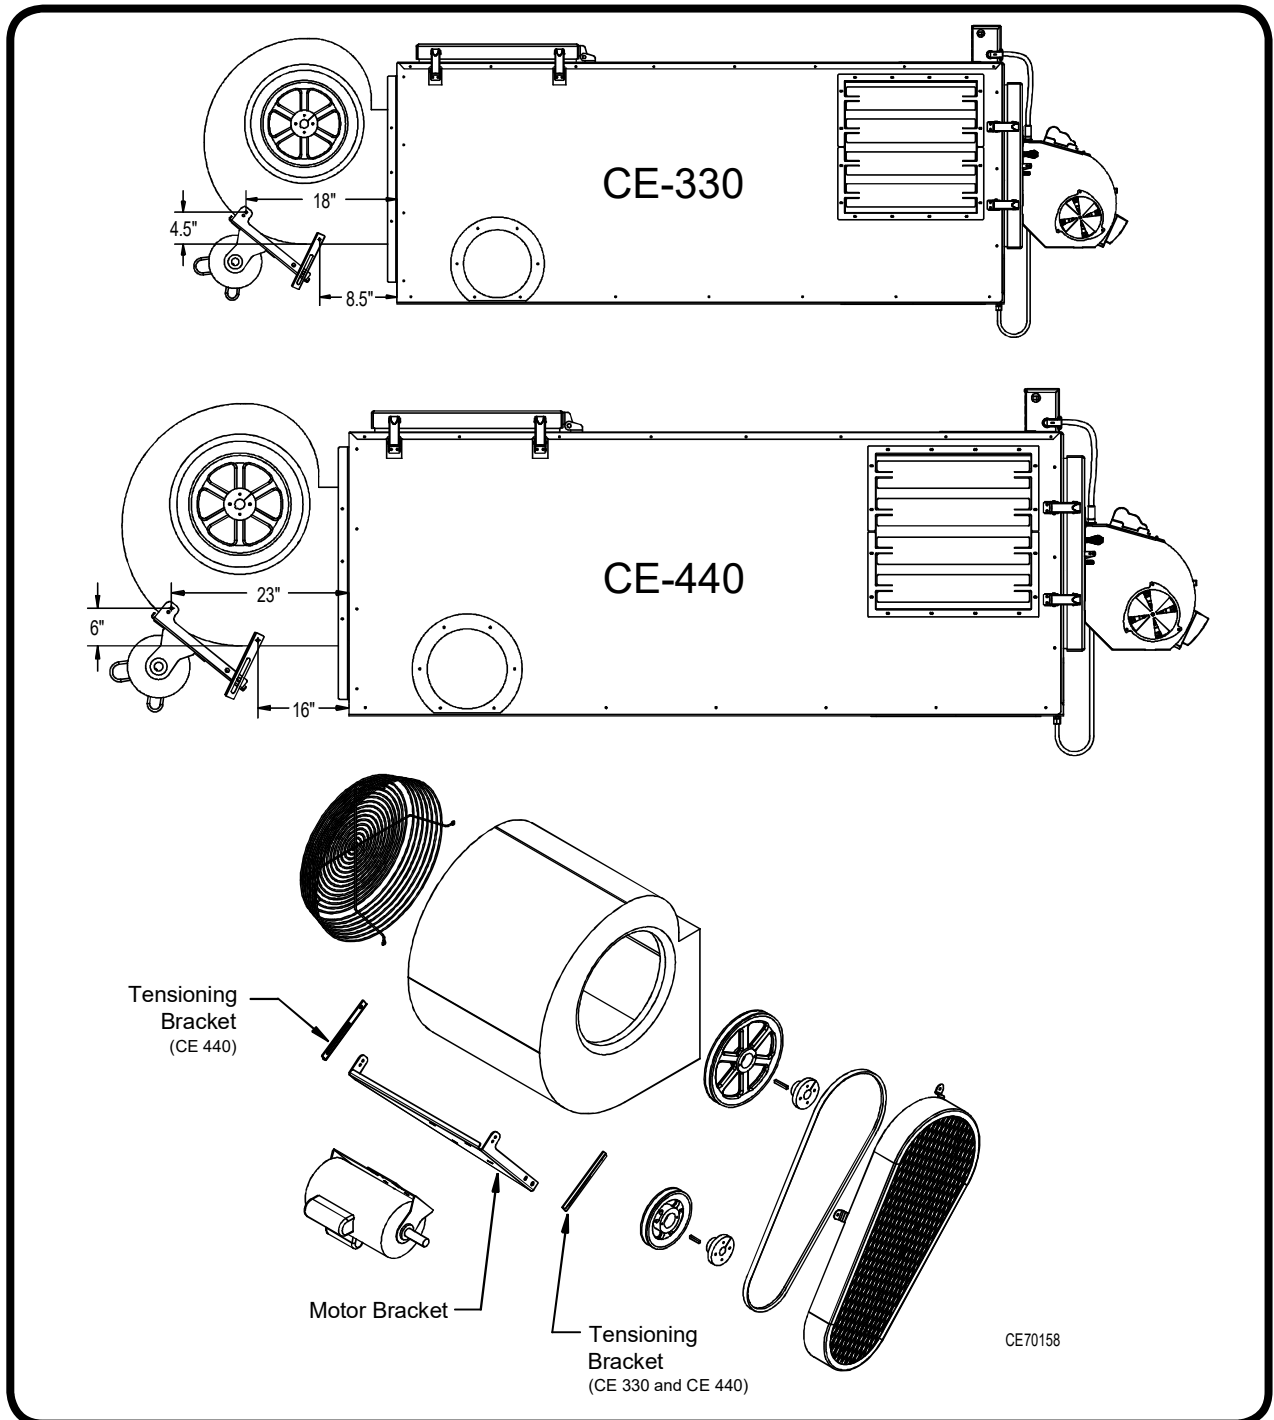

Figure 2A: Blower Assembly Installation (CE-330)
- (1) Refer to Figure 2A.
- (2) Place the blower inside the mounting angles on the back of the furnace with the blower bubble turned up.
- (3) Use the included #10 self-drilling screws to secure the blower housing to the mounting angle brackets on the back of the furnace cabinet.
- (4) Fasten the motor bracket and tensioning bracket to the blower according to dimensions shown in Figure 2A.
- (5) Secure the motor to the motor bracket with the supplied hardware.